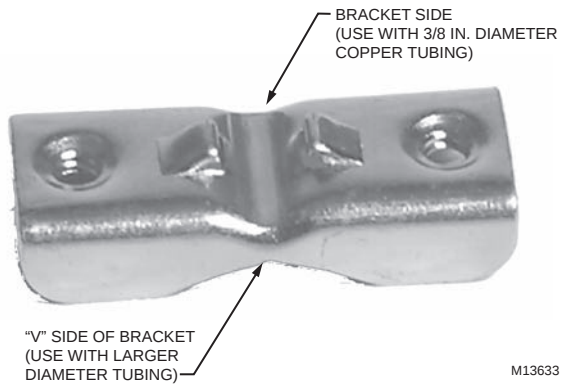

Fig. 33. Saddle Valve Bracket installation.
- a. For 3/8 in. diameter copper tubing use bracket side with projections to prevent distorting tube. See Fig. 33.